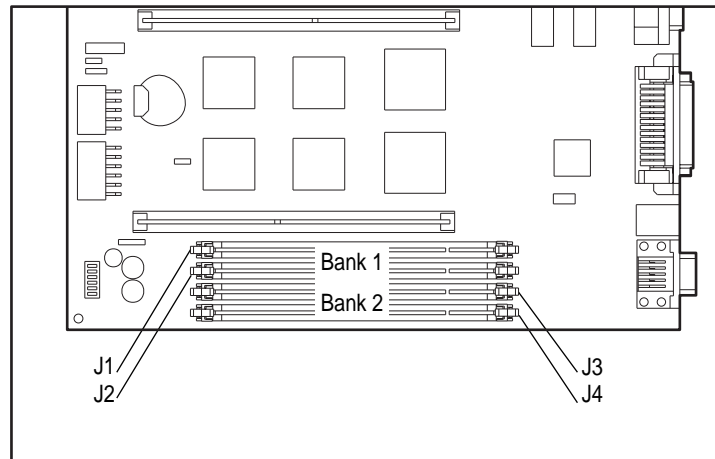

Figure 4-8. Memory Banks on the System Board
3. Install DIMMs as shown in Figure 4-8. For information on memory banks, see the following section titled “Memory Banks.”